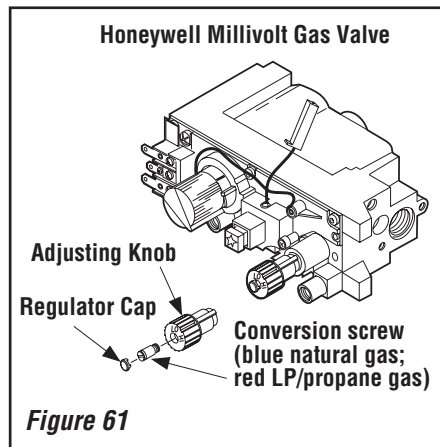

Figure 61
- a. Convert the gas valve as follows (see **Figure 61**): Remove the plastic protecting cap. Remove the gas type setting screw by turning it counterclockwise. Obtain the replacement gas type setting screw from the kit and screw it into place (red for propane and blue for natural gas). Tighten the gas type setting screw by turning it clockwise. Replace the plastic protecting cap.